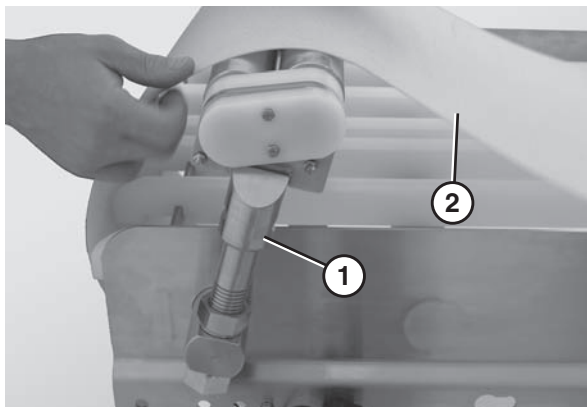

Figure 43
2. Place the tip up tail (**Figure 43, item 1**) in the up position.
3. Lift up on the belt (**Figure 43, item 2**).